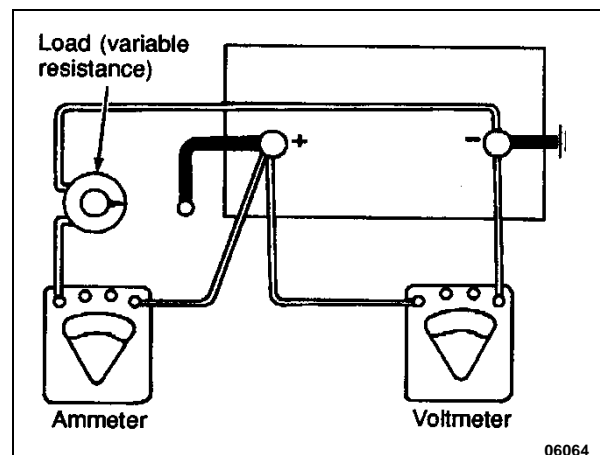

FIGURE 54: LOAD TEST
To make this test, use test equipment that will withstand a heavy electrical load from the battery, such as a carbon pile resistor along with an ammeter and volt meter (Figure 54). A charging system analyzer test equipment may also be used.
1. Connect a voltmeter, ammeter, and a variable load resistance as illustrated in Figure 54.